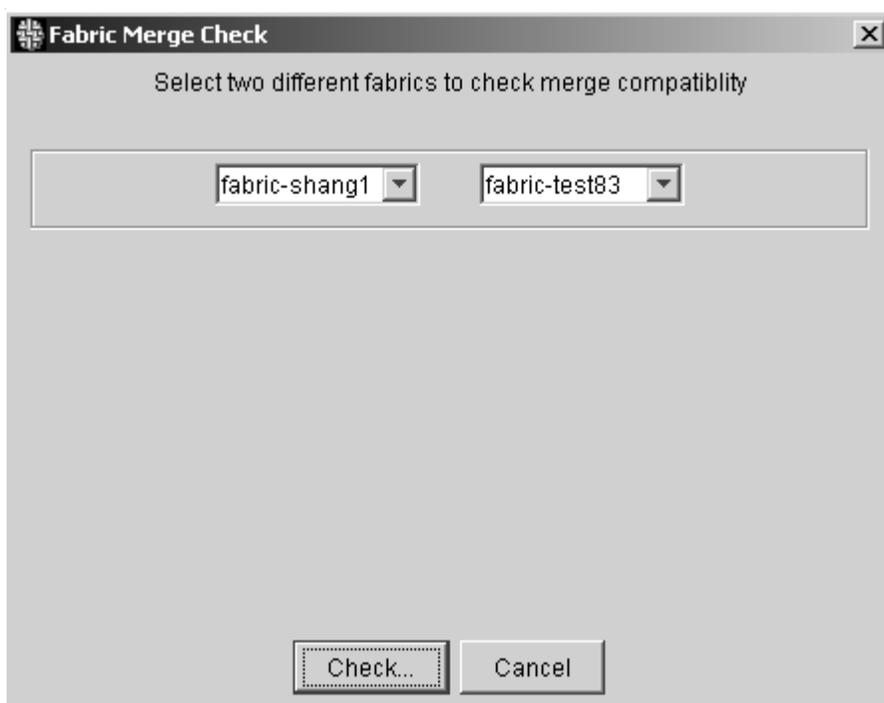

Figure 31: Fabric Merge Check dialog box
1. Choose **Tools > Fabric Merge**. The **Fabric Merge Check** dialog box displays, as shown in Figure 31